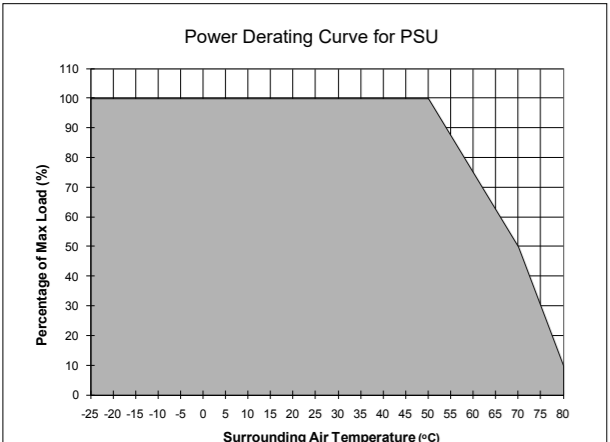

Figure 6
5.4. Thermal behavior (Fig. 6)
Operating temperature (Surrounding air temperature)	-25°C to +80°C (Refer to Fig. 6)
5.4. Comportement thermique (Fig. 6)